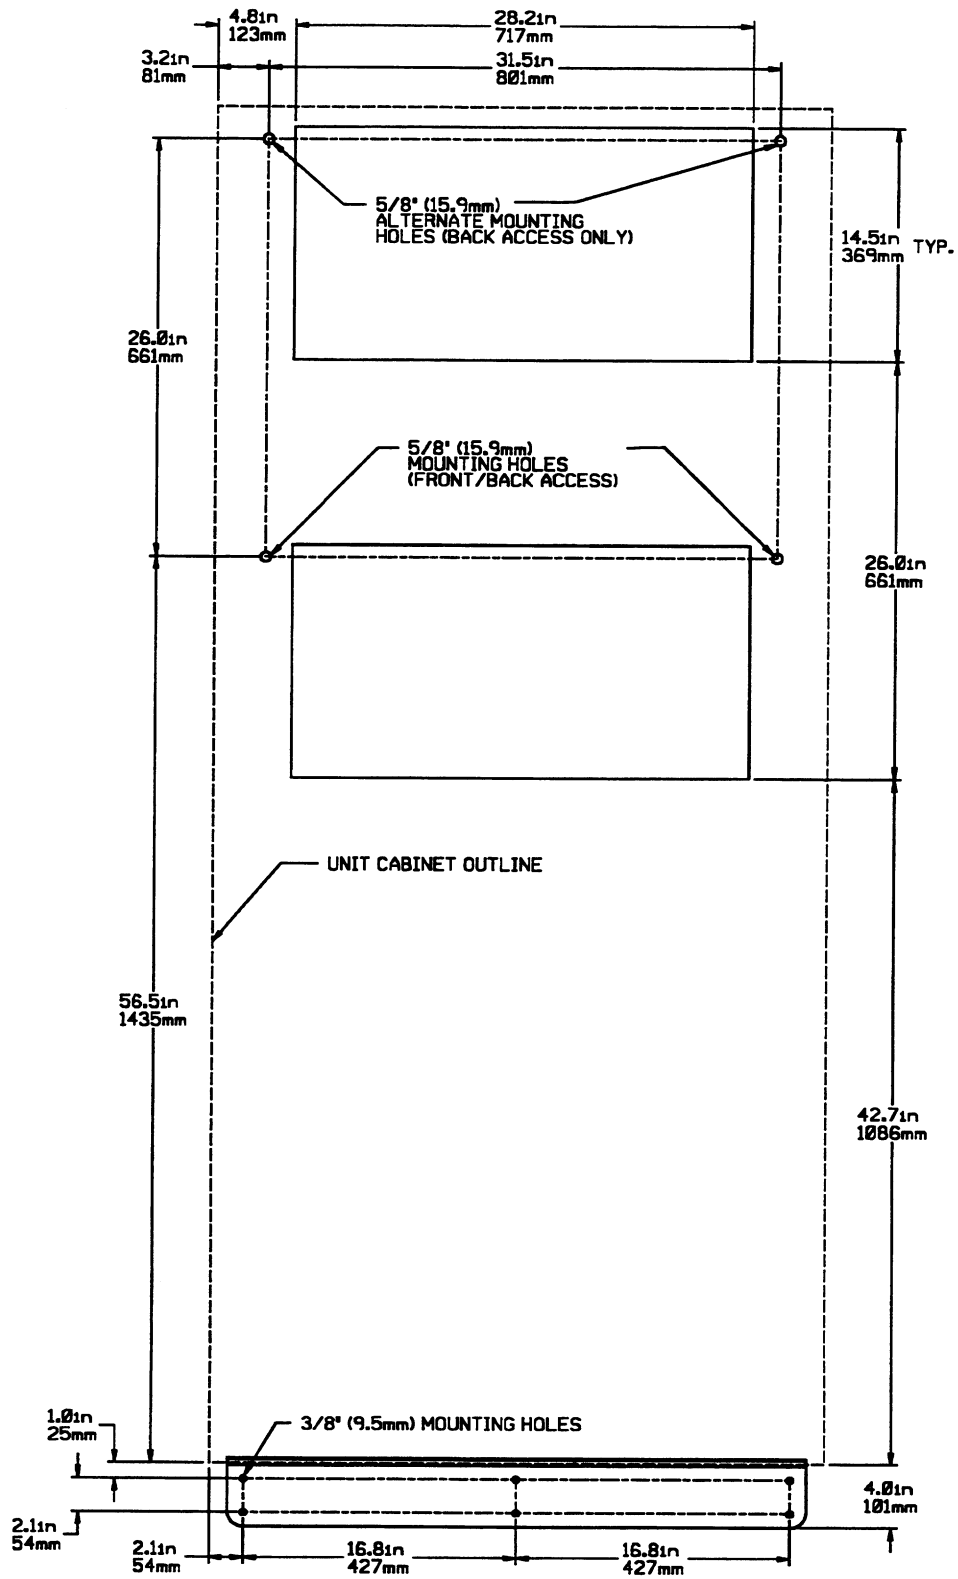

Figure 2. Mounting Layout
The IntelCool unit is installed against, and through, an outside wall. Two (2) openings in the wall are required for the evaporator supply and return. Install unit in a level position to assure proper refrigerant flow, oil return, and condensate drain. To install the unit, follow the instructions below (refer to Figure 2).
3. Prepare supply and return openings in an outside wall, 28.2 inches (717 mm) wide by 14.5 inches (368 mm) high, 12 inches (305 mm) apart, with the bottom of the lower opening 43 inches (1092 mm) above the base chalk line. Refer to figure 2.
4. Prepare two upper mounting holes, either at the top or midsection of the unit. The mounting holes may be pilot holes for lag screws or clearance holes for bolts that will extend completely through the wall (5/8" for 1/2" bolts). Note that the outside of the top holes will be accessible only through the supply opening (from inside the room) once the unit is placed against wall. The middle holes can be accessed from outdoors when the top front panel is removed. Refer to Figure 2 for location of these holes.